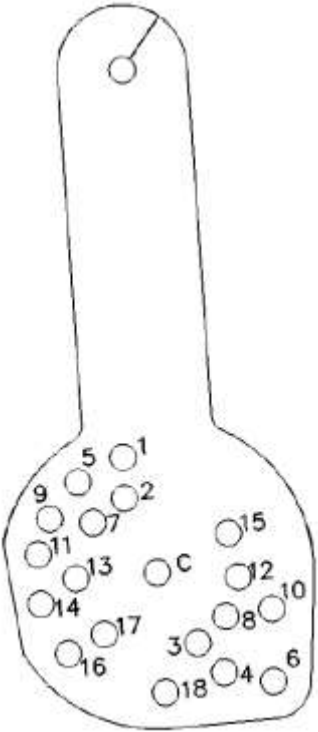
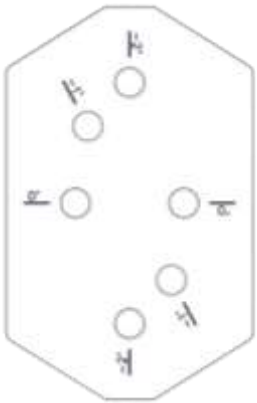

Figure 5: Tilt select arm
Figure 6: Bottom bracket
9. If a tilt other than 0 degrees is desired, reposition the antenna according to the hole numbering on tilt select arm 10, *Figure 5*, and downtilt *Table 2*. For bottom bracket 8, *Figure 6*, use 0 degrees for downtilt, and -1 or -2 degrees for uptilt. Then tighten all fasteners to 20 lb-ft.